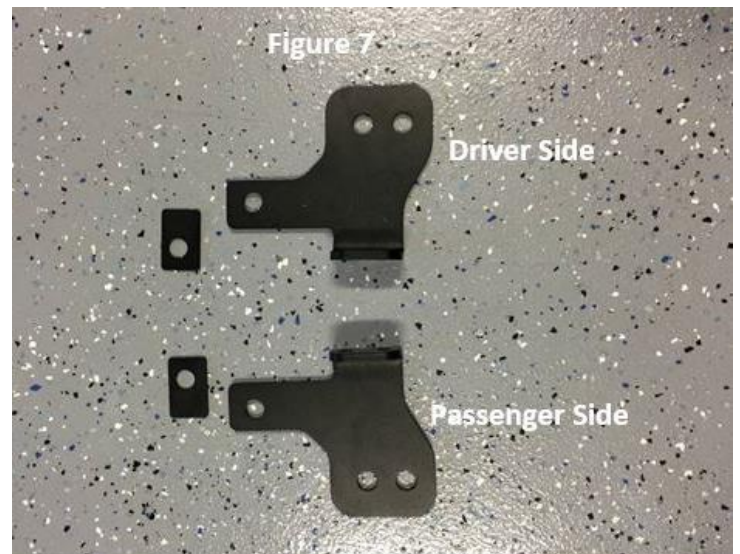

Figure 7
10. Install bumper Side Support Plates they will go behind the front flanges on the side of the frame. Install the top bolt into the hole you drilled out using the included 1/2" grade 8 bolt washers and lock washer by access through the hole in the front of the frame rail. Make sure you put the hose bracket onto the bolt as well. TIP: (photos below) To get the nut inside the frame, hold the nut in a box end wrench put a piece of tape across the back of the boxed, insert the wrench with the nut captured. Next install the included 12mm bolt into existing factory threaded hole using a 17mm (11/16") socket with a flat and lock washer. Then install the two 3/8 diameter bolts using a 9/16" socket with a flat washer, lock washer and nut. It is best if you loosely assemble the bracket, put all the bolts in place, then snug everything up (Figure 7 & 8).